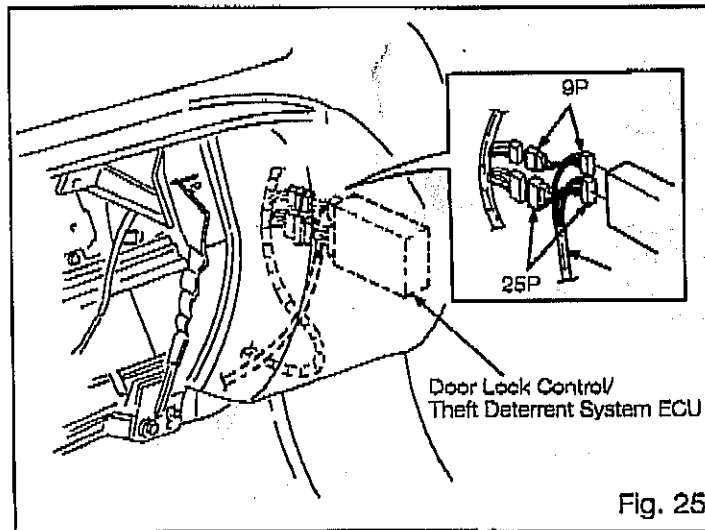

Fig. 25
- (2) A) Insert the RS3000 harness' orange 9P and 25P female (terminals) connectors into the Door Lock Control/Theft Deterrent System ECU. Fig 25
- B) Insert the vehicle wire harness' orange 9P and 25P female (terminals) connectors into the RS3000 harness' orange 9P and white 25P male (terminals) connectors. Fig 25